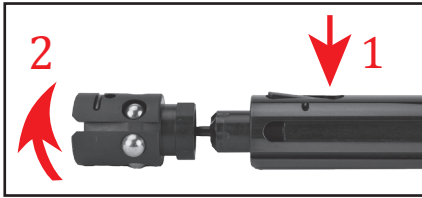

Figure 14
3. Depress the rear of the **Bolt Head Lock Plunger** with your finger – see number 1 in Figure 14. This will allow the Bolt Head to be rotated counter-clockwise and pulled away from the bolt assembly – see number 2 in Figure 14.